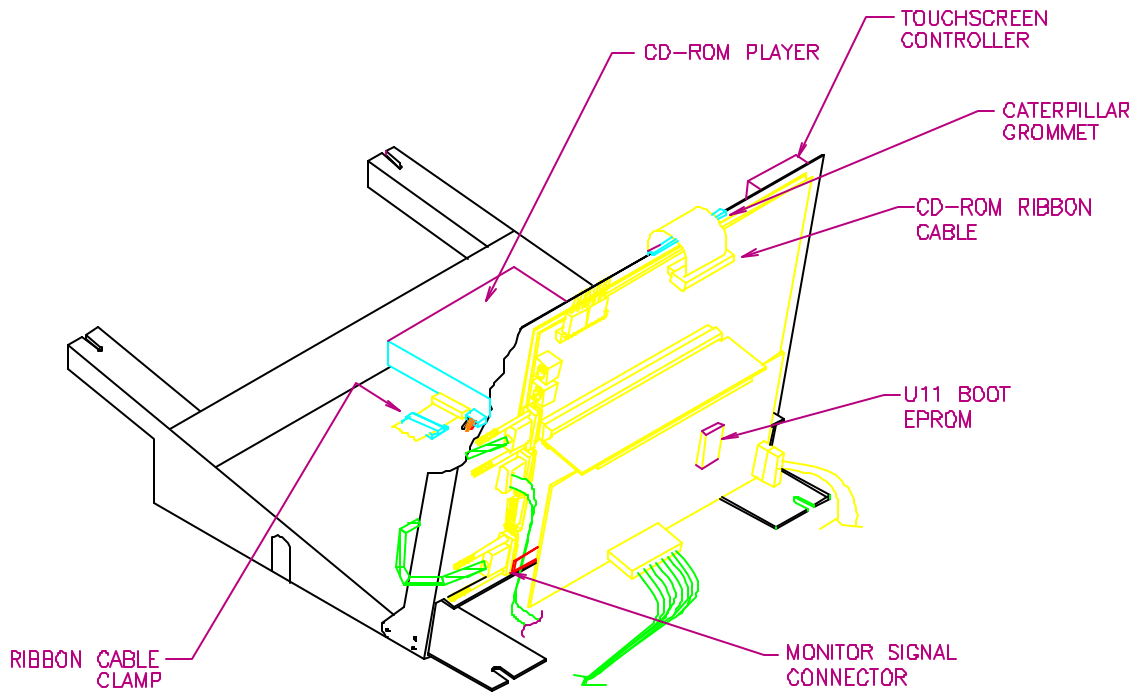

FIGURE 1 - COUNTERTOP - CD PLAYER REMOVAL
3. Remove the touchscreen controller and disconnect the touchscreen controller cable from the back of the controller. Also, disconnect the Molex connector connecting the orange and gray wires from the touchscreen controller cable to the main harness, and the green wire with ring lug, that is attached to the metalwork, next to the controller. See Figure 1 for touchscreen controller location.
4. Disconnect the monitor signal cable from the motherboard. See Figure 1.